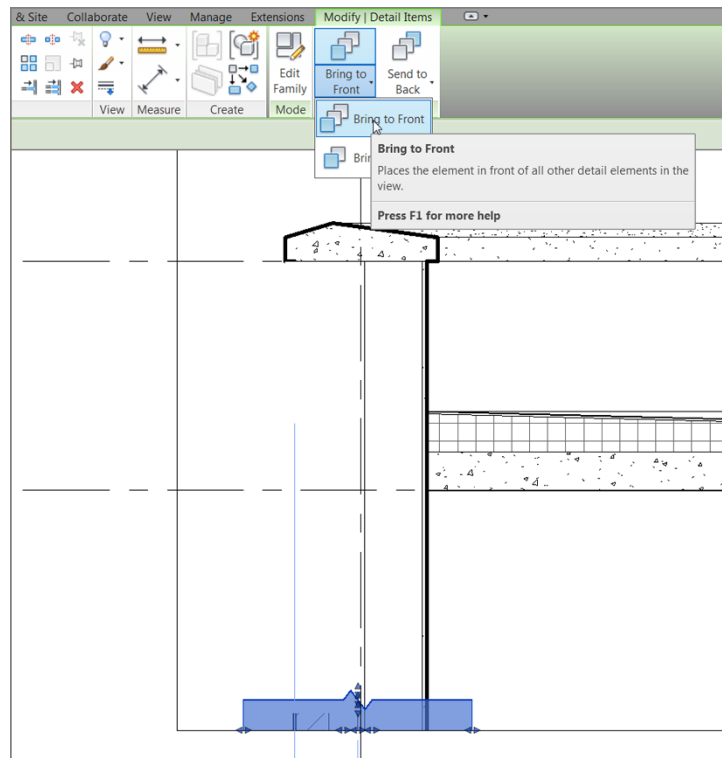

FIGURE 12.8: Click the Bring To Front button on the Modify | Detail Items tab after selecting the break line.
1. If the break line is behind the masking region, select the break line, as shown in Figure 12.8.
2. On the Modify | Detail Items tab, click the Bring To Front button (see Figure 12.8).